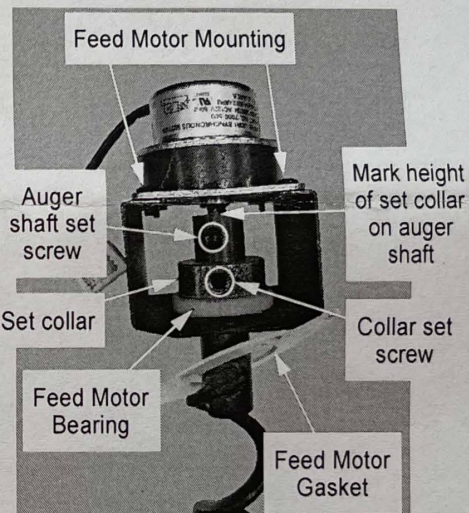

Figure 2
4. Move the feed collar away from the plastic bearing to release the pressure and then push it lightly against it again (**Figure 2**).